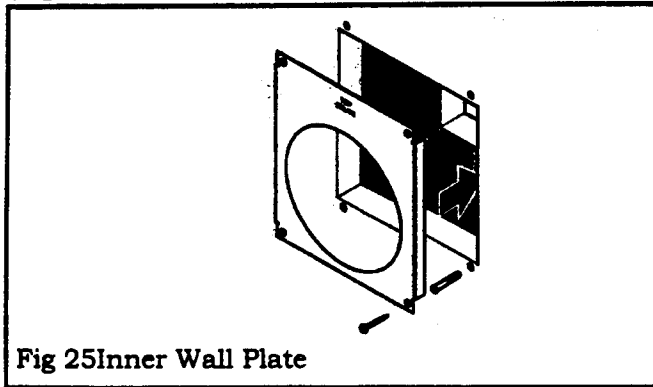

Fig 25 Inner Wall Plate
8.2.2.2 Place the inner wall plate on the inside wall. Make sure that the plate is the correct way up (it is marked "top"). The side flanges should enter the hole. Mark the four fixing holes on the wall. Remove the plate. Plug the wall. Replace the plate and fix with four wood screws provided. (Fig. 25).